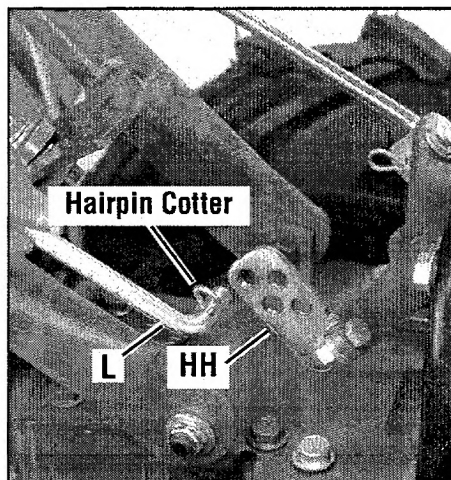

Figure 2-7: Install Forward Clutch rod.
1. The upper end of the Forward Clutch rod is attached to the bottom of the handlebar control panel. Turn the rod (L, Figure 2-7) so that the small bend at its lower end points inward toward the clutch swivel plate (HH).
2. Insert a hairpin cotter down through the hole in the rod that is located closest to the bend (see Figure 2-7).